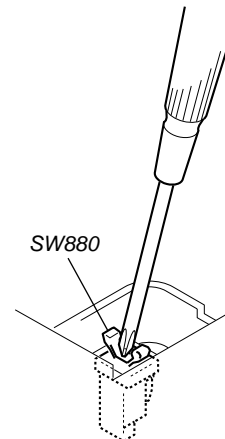

Fig. 1. Method to push the SW880
2. Push the SW880 as shown in Fig.1.